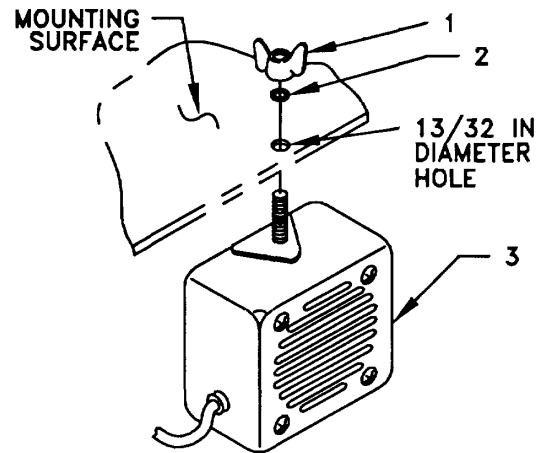

Figure 5-4(1). Speaker Installation - A
**Method B.** See Figure 5-4(2).